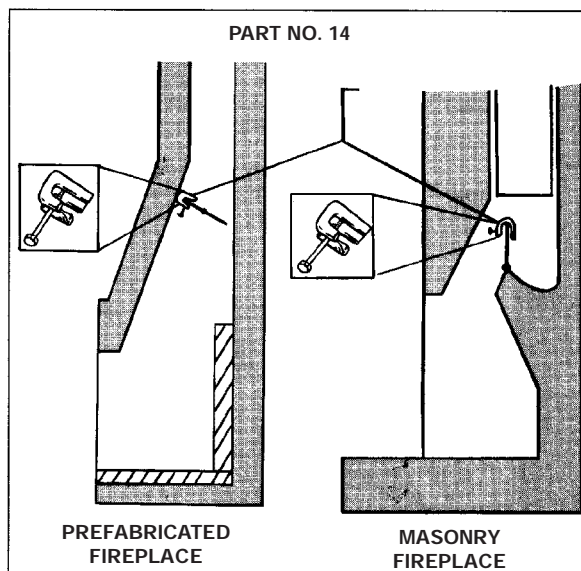

Figure 2. Damper stop clamp
- B. Open fireplace damper fully and install Damper Stop Clamp with 1/4x2" set screw (Part 14#). This clamp is designed to allow any pilot combustion by-products to vent (See figure 2.) Should the Damper Stop Clamp supplied not fit, a permanent damper stop clamp must be installed that will keep the damper open at a distance of not less than 1 1/2". Damper must be in the fully open position anytime this unit is in operation.